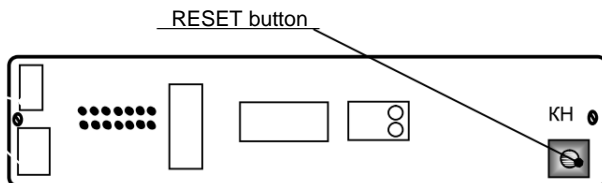

Fig. 3. Indication board
- In order to reset the meter, push RESET button (Fig. 3) on control panel indication board installed on recirculator lid.